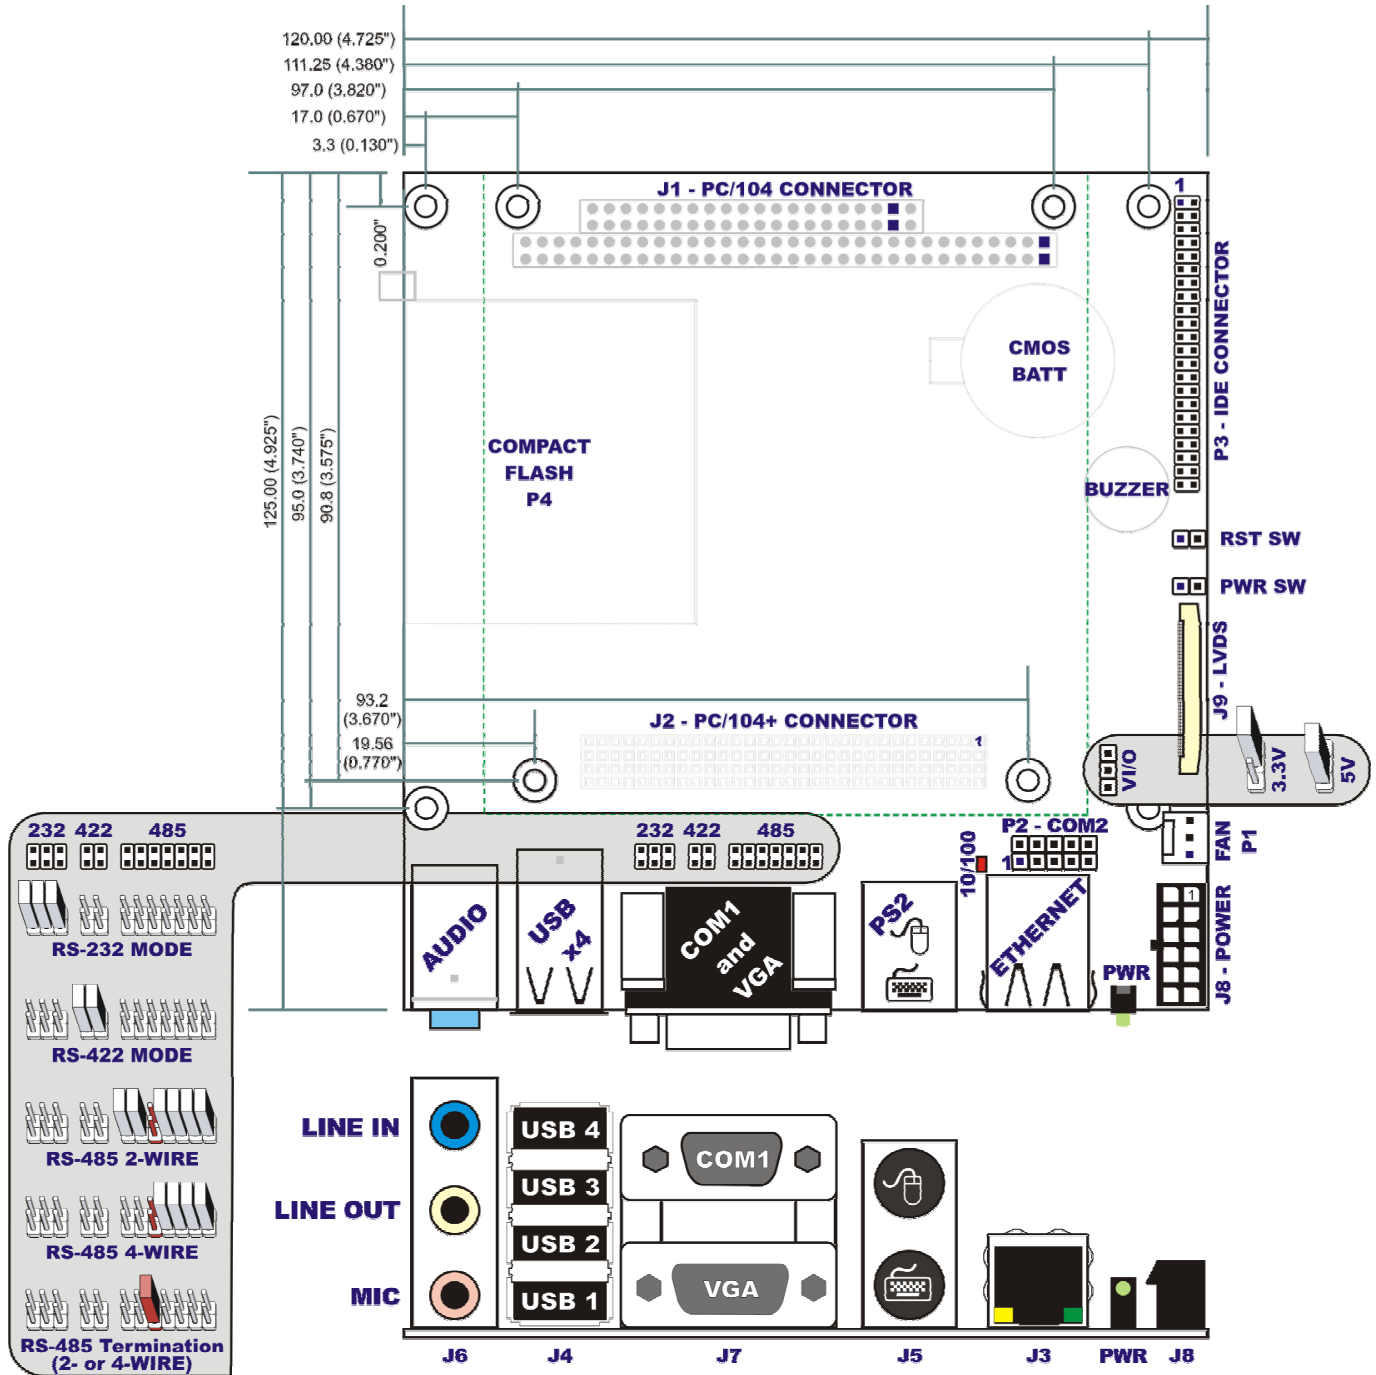

Figure 3-1: Option Selection Map
***Note: This jumper has no effect on PC/104 boards, it is only for “PCI” based 104 cards. You can tell if your board needs this set, look for a connector on your I/O board that would plug into J2 (see Figure 3-1: Option Selection Map) that is the PCI bus connector.***